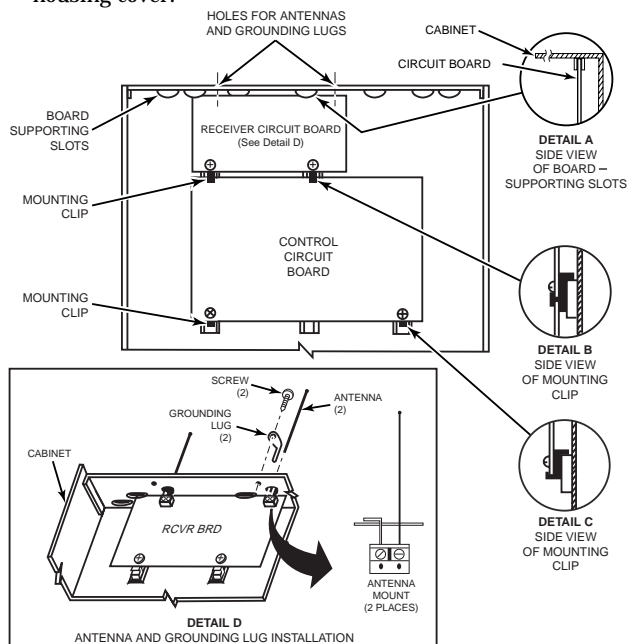

Figure 2. Installing the 5883 Board in the Control's Cabinet (Check the control's Installation Instructions for applicability)
Mounting inside the control's cabinet (refer to Fig. 2):
3. Hang two *short* (black) mounting clips (provided) on the raised cabinet tabs in the cabinet, as shown in Detail B of Figure 2.
2. Insert the top of the board into the supporting slots at the top of the cabinet (see Detail A, Figure 2). Secure the bottom of the board with the 2 screws removed in step 1 above, using an insulating washer (supplied) between the head of each mounting screw and the PC board.